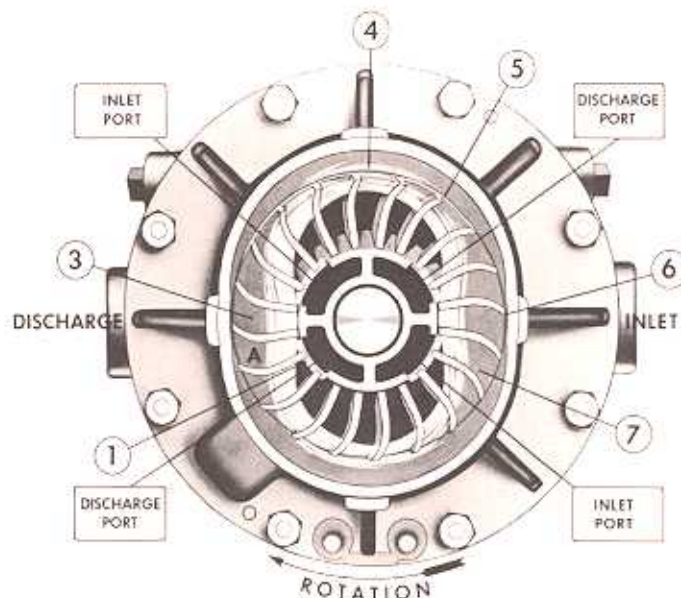

Fig. 5
The principle of operation of the pump is shown in Fig. 5. A rotor (5) in hydraulic balance revolves freely without contact in an elliptical casing (6) containing a liquid, usually water (4). This rotor (5) is a circular casting consisting of a series of blades which project from a cylindrical hub to form pockets or chambers. Ports are arranged at the bottom of each chamber. A cone-shaped casting containing two inlet and two outlet ports as at (1) fits without contact into the rotor hub.